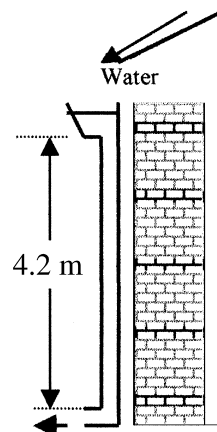

Fig. P6.47
6.47 The gutter and smooth drainpipe in Fig. P6.47 remove rainwater from the roof of a building. The smooth drainpipe is 7 cm in diameter. (a) When the gutter is full, estimate the rate of draining. (b) The gutter is designed for a sudden rainstorm of up to 5 inches per hour. For this condition, what is the maximum roof area that can be drained successfully?